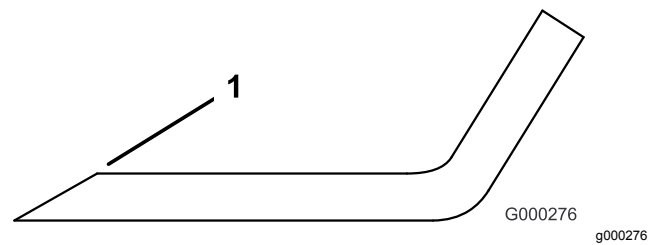

Figure 52
1. Use a file to sharpen the cutting edge at both ends of the blade (Figure 52).